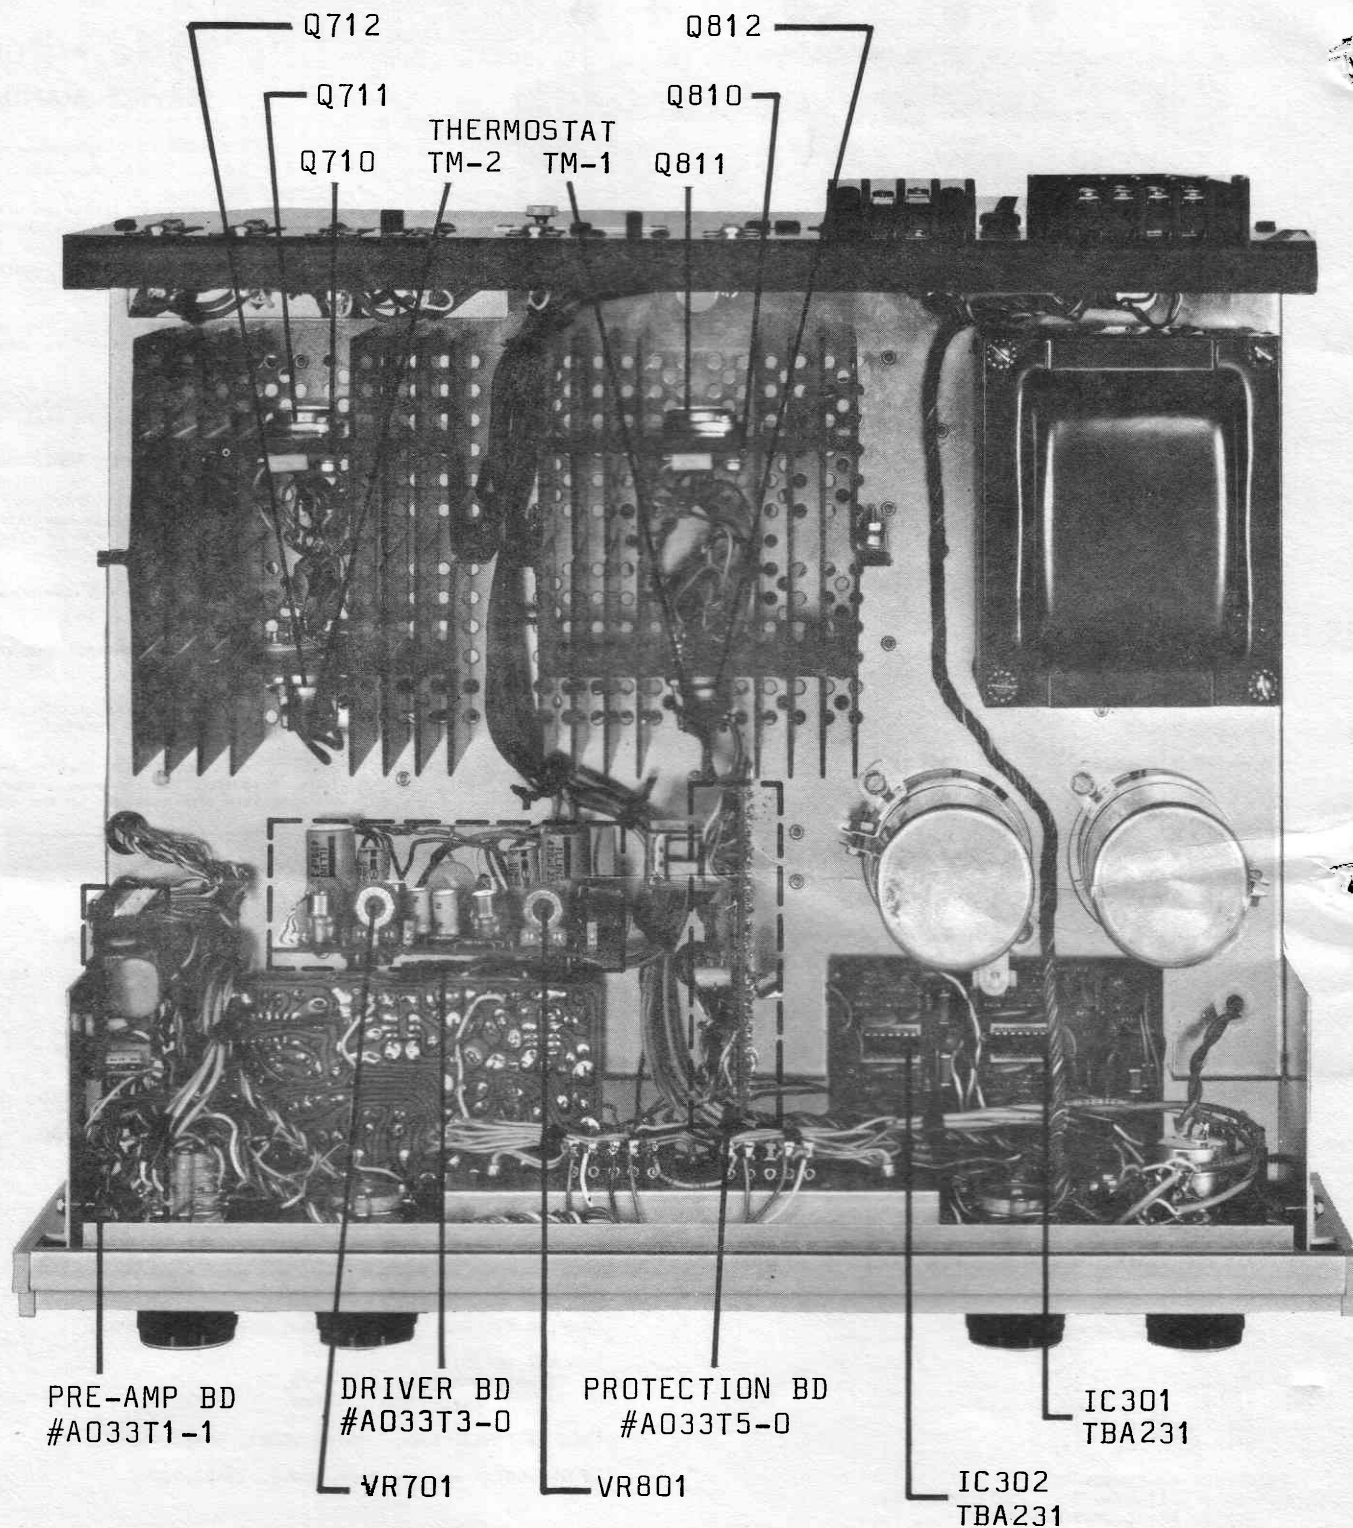

FIGURE 1 (TOP VIEW)
PARTS LOCATIONS [Fig. 1]	Inside Covers
1. For simplicity only the left channel and its related circuitry are described. The right channel is identical except for reference symbol numbers [see Schematic Diagram]. For parts locations, refer to Figure 1 on the inside covers.